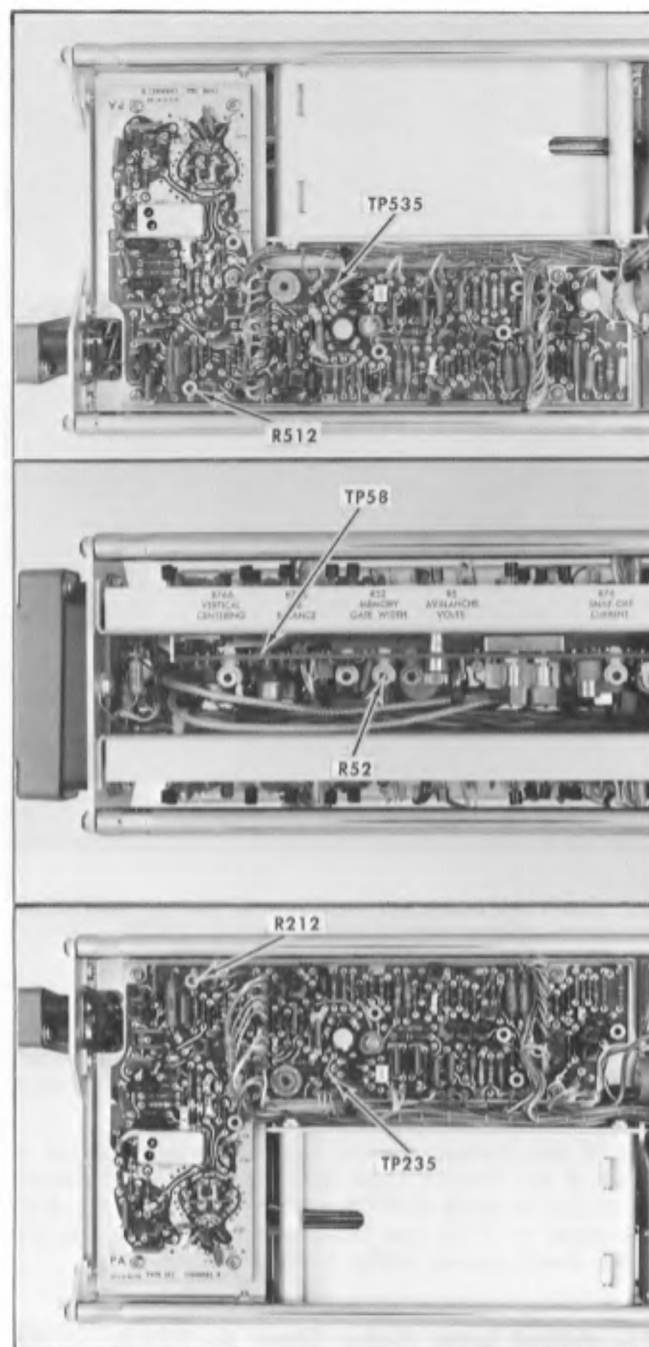

Fig. 8-17. Memory Gate Width control (R52) and test points of Step 10.
b. Adjust the Memory Gate Width control, R52 shown in Fig. 8-17, for maximum feedback loop gain.
c. To check the Memory Gate circuit output pulse, attach the test oscilloscope 10 $\times$  Probe to TP58 (see Fig. 8-17).
d. If one channel operates and the other does not, a check of the Memory Gate drive signal to each Memory circuit can be made at TP235 and TP535 shown in Fig. 8-17. The signal at TP235 and TP535 is not flat at the top, but rather should appear similar to Fig. 8-18B.
c. Set the two front panel screwdriver adjust dot response controls to midrange. Then adjust the Channel A internal loop gain control, shown in Fig. 8-17, so the transition corners are as similar as possible to the corners at 100 dots per division. Check back and forth from 100 to 10 dots per division to be certain the display is correct.
h. Check the display corners at the ends of both the positive and negative transitions at 100 dots per division. At 10 dots per division, adjust the Channel B internal Loop Gain control, R512 shown in Fig. 8-17, for correct dot response. Check back and forth between 100 and 10 dots per division to see that the display is correct (similar to Fig. 8-16B).